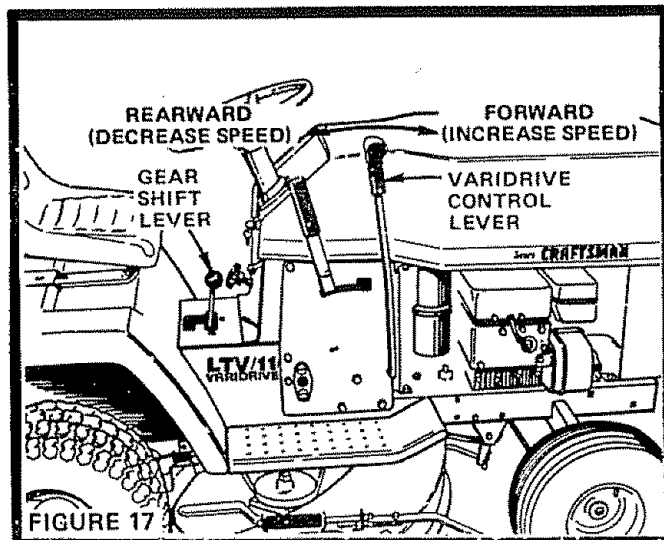

FIGURE 17
- With engine running, and Gear Shift Lever in neutral position, place Varidrive Control Lever in slow position (Fig. 17). Do not depress Clutch Brake Pedal.